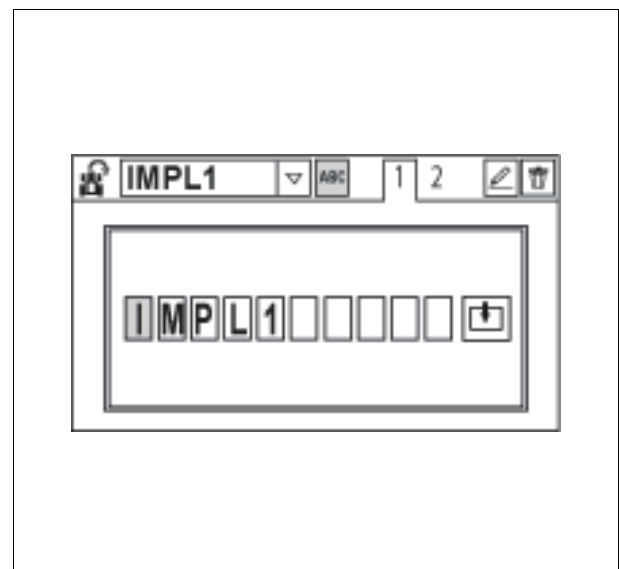

Fig. 6.
4. Rename the program *fig. 6*.